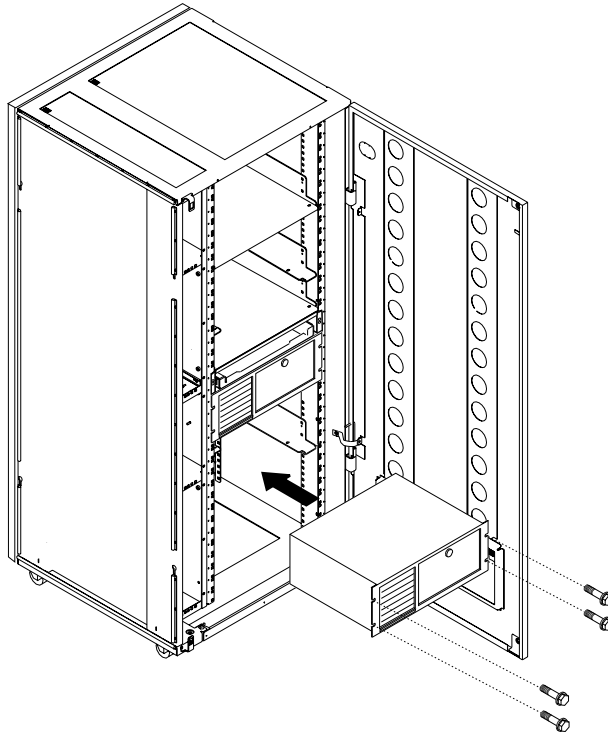

Figure 1-9. Installing the 7585 NNP-B Unit in the Controller Expansion (Front Side)
1. \_\_\_\_ Slide the network node processor unit in the controller expansion from the front side as shown in Figure 1-9, then fasten the unit using four screws (PN 1621230).